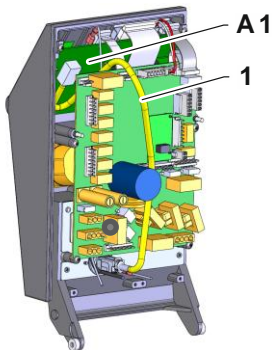

Fig. 3: Interior front
11. Connect the Ethernet cable (marking 1 → Fig. 3) from interface ZO according to Fig. 3 and connect it to USR-51 (A 1).